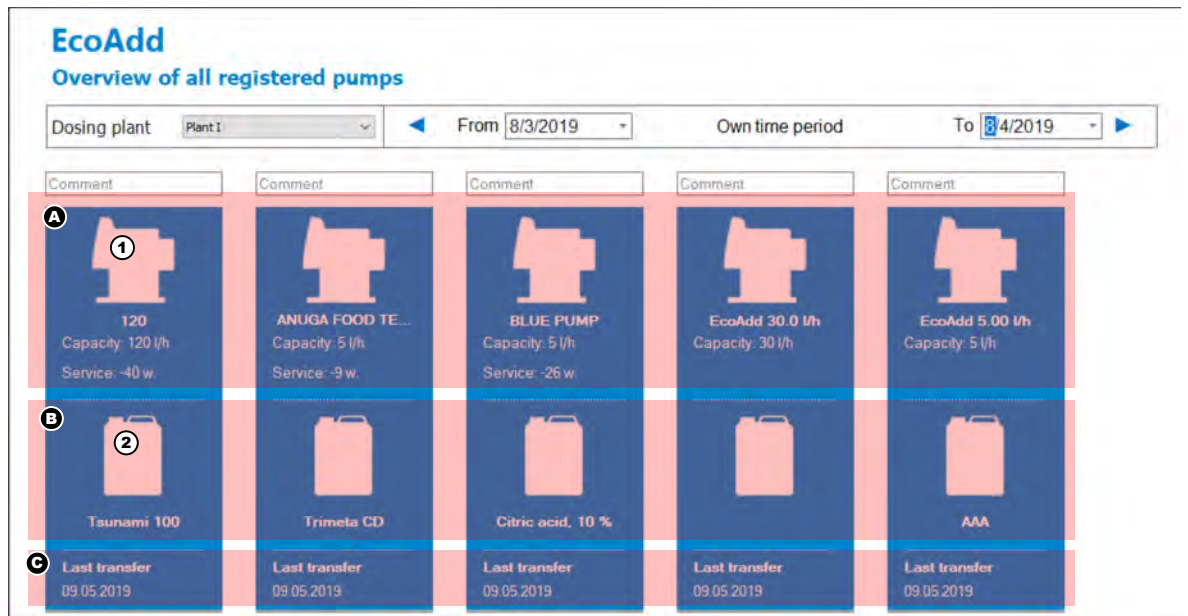

Fig. 21: Pump overview - extract
The pump overview (Fig. 21) provides various display options for analysing the data from individual pumps or comparing pumps with each other.
It displays all specific data (Fig. 21, item A) and the dosing chemical used (Fig. 21, item B) for the selected pump.
You can also see information about the last data transfer data for each individual pump in order to ascertain the current status (Fig. 21, item C).
To view an individual pump, select the pump icon for the desired pump (Fig. 21, item 1).